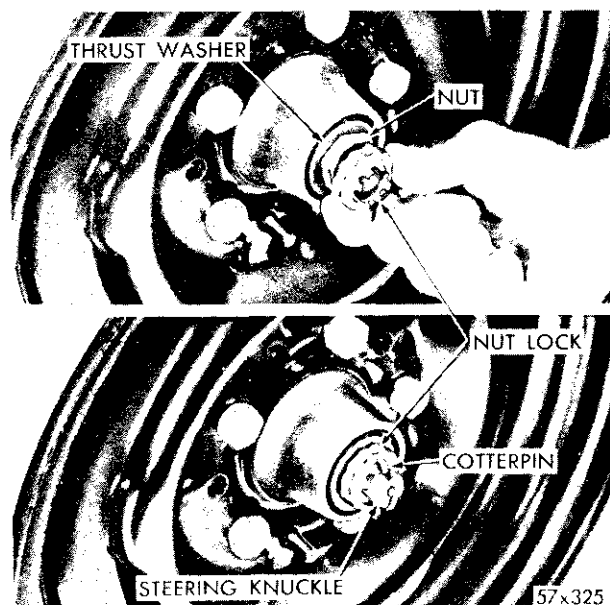

Fig. 13—Adjusting Front Wheel Bearings
(1) Tighten the wheel bearing adjusting nut to 90 inch-pounds torque while rotating the wheel.
(2) Position nut lock on nut with one pair of slots in line with cotter pin hole (Fig. 13).
(3) Back off the lock and adjusting nut lock slot.
(4) Remove nut lock and re-position it on adjusting nut so the cotter pin can be inserted. **Do not move adjusting nut.** Install cotter pin.
(5) Clean the grease cap, coat the inside with wheel bearing lubricant (do not fill) and install.
(6) Install wheel, tightening nuts to 65 foot-pounds torque and install wheel cover (all models).